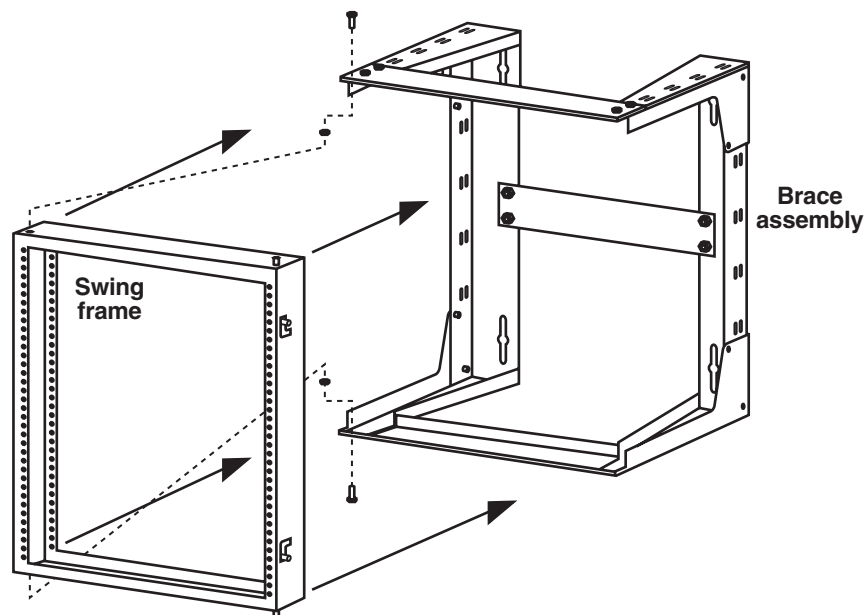

Figure 3-3. Final assembly (shown with swing frame oriented so locking pins are on right).
1. Mount the rack's rear assembly to the wall with four lag screws (not included). (This should be done by experienced technicians only!) Mounting locations are shown in Figure 3-3.